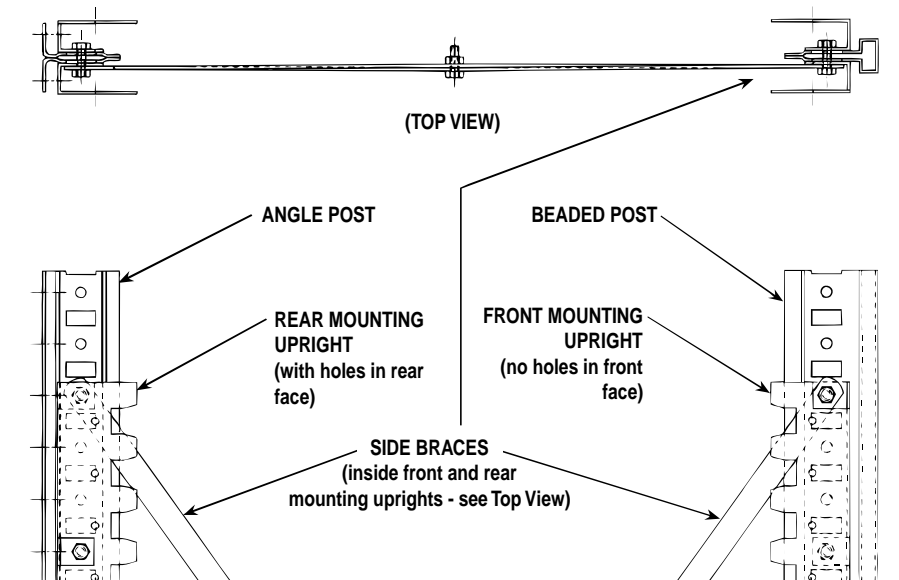

FIGURE 2.1
- Position the mounting upright on the inside of the post. If there is interference with attachment screws of side braces, reattach the side braces to the inside of mounting uprights. (See Figure 2.1)
- Attach the mounting uprights with three (3) 1/4-20 x 3/4 Hex Head Grade 5 Capscrews and 1/4-20 Keps Nuts. Start the screws from the inside of one unit going through one of the socket wrench access slots of the mounting upright, through the post(s) and then into clearance holes of mounting upright on the opposite side. (See Figure 2.1). Be sure to use no less than three (3) screws from each side for a total of six (6) screws through each pair of mounting uprights. Secure with Keps nuts. Proceed to Step 3.